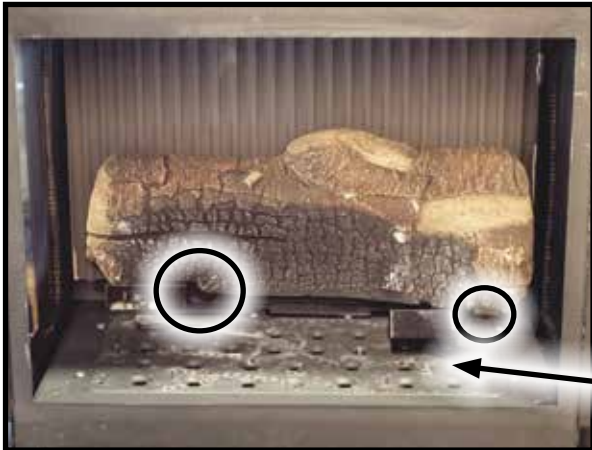

Figure 50. Log #8 Placement
The placement of the logs is not arbitrary. If they are positioned incorrectly, the flames can be "pinched" and will not burn correctly. All of the logs either locate on burner pins or a notch, which make alignment easier. Using the pictures provided, carefully set the logs in place (see Figures 50 through 60).
1. Place Log #8 on top of the pilot shield (left side) and the log rest (right side) at the rear of the firebox. Slide the log left until it contacts the finger stop next to the pilot shield (Figure 50).